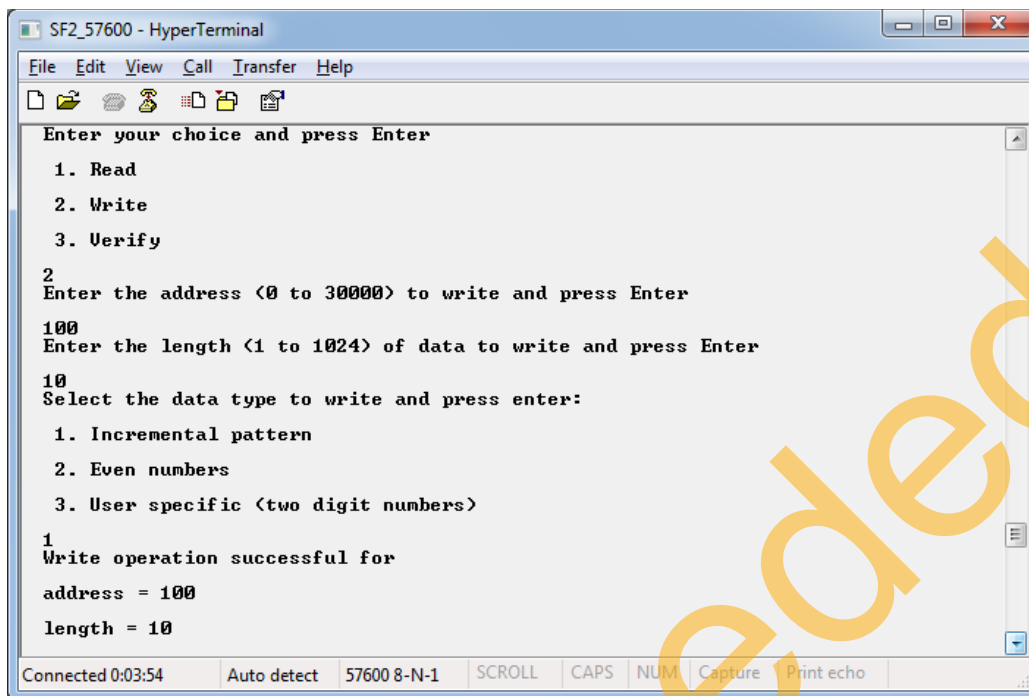

Figure 7 • Write Operation
9. Enter the choice to write. It prompts for address, length, and data consequently. Enter the values, as shown in Figure 7.